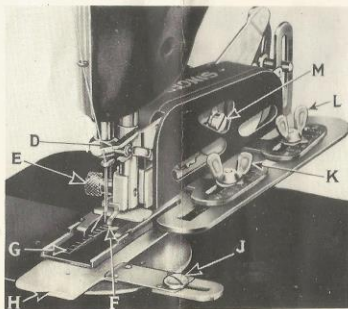

Fig. 2. Right Side, Showing Feed Cover Plate
2. Place the feed cover plate (H) in position as shown in Fig. 2.